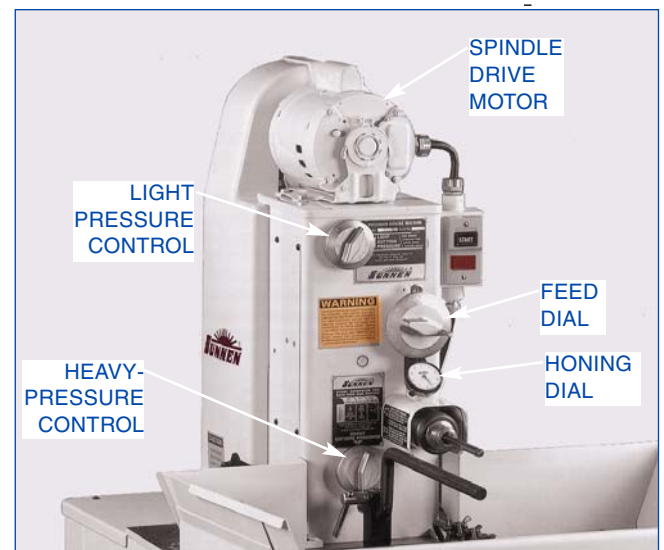

FIGURE 2-3, Hone Head Assembly
3. HONE HEAD ASSEMBLY Hone Head Assembly consist of following components (see Figure 2-3):